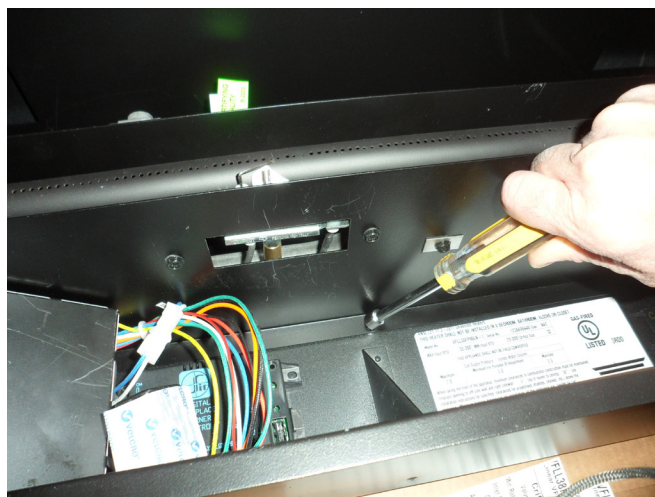

Figure 55
2. Remove the three 5/16" Hex screws that hold down the complete burner and valve assembly. There are two screws on the front bottom flange, and one located on the back bottom flange, near the right end. See Figure 55.